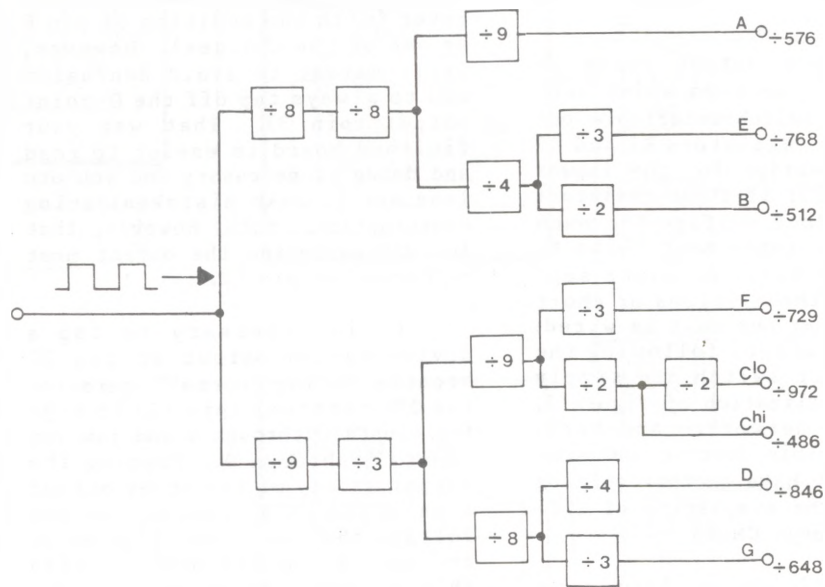

FIG. 3: PROCEDURE FOR ANOTHER JUST SCALE
Since all just scales are not created equal, figure 3 shows the mathematics and block diagram for an alternate, seven-tone Pythagorean scale (described in David Doty's article). There are many different possible scales, so if you fully understand the procedure of using dividers to create scales from a high frequency clock, you will be able to design your own top octave divider derived from your favorite scale. In case you would like to experiment with other just scales, those in figure 4 were also provided by David Doty (note that our JIG scale is the same as #2). His comments were, "I am not certain (these) are the best ones available, although they may well be. The possibilities are enormous and, in any case, what makes a good scale is as much in the hearing as in the numbers. #1 has the lowest numbers of any 7-limit chromatic I have found. #2 is a 5 limit scale with the maximum number of consonant triads. This is what many theorists consider the proper form for a chromatic scale. #3 is OMJ12, the 12 tone version of our (Other Music's) current scale, and the one we would probably prefer on a keyboard. Note that it differs from #1 by only 1 note (D), but that this one note raises the divisor by a factor of 3. #4, the "Inverse Helix" has the lowest divisors of all, but definitely falls into the category of exotic scales; not something that you could substitute for a normal chromatic scale without bizarre results."